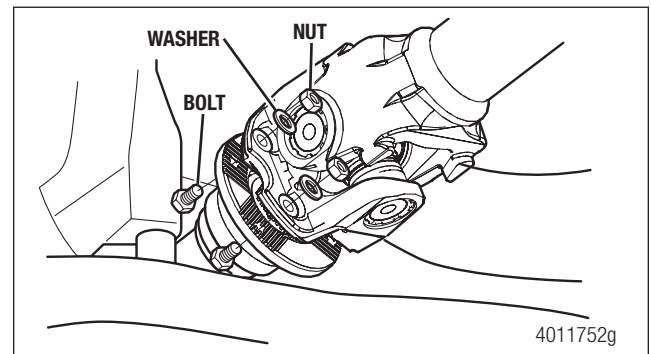

Figure 5.66
3. Remove the fasteners and separate the drive flange from the input drive flange. Support the disconnected end of the driveline. Figure 5.66.